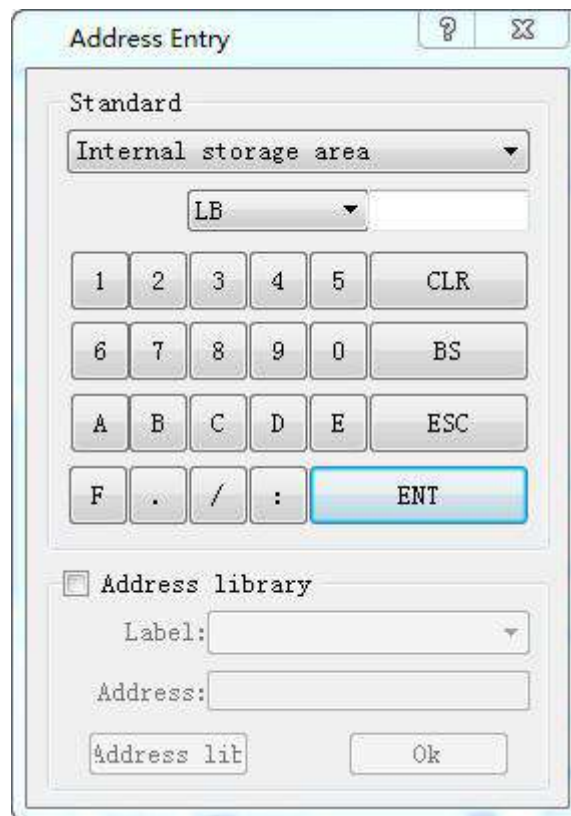

Figure 4-71 Input address
- ◆ Write Address: Click the Keyboard button icon after "Write Address" to enter the address. SKTOOL software will distribute corresponding address symbols according to different connected devices. For example, in FX-2N series of MITSUBISHI (Mitsubishi) PLC, X represents the address of input coil; Y represents that of the output coil; M that of the intermediate relay; C that of the counter (switch status display); T that of the timer (switch Status display); D that of the data register; C * that of the counter (count value); T * represents that of the timer (count value). Another example is the series of SIEMENS (Siemens) S7-200: I represents the input address; Q on behalf of the output address; M on behalf of the intermediate relay address; V on behalf of the data register address. As shown in Figure 4-71: